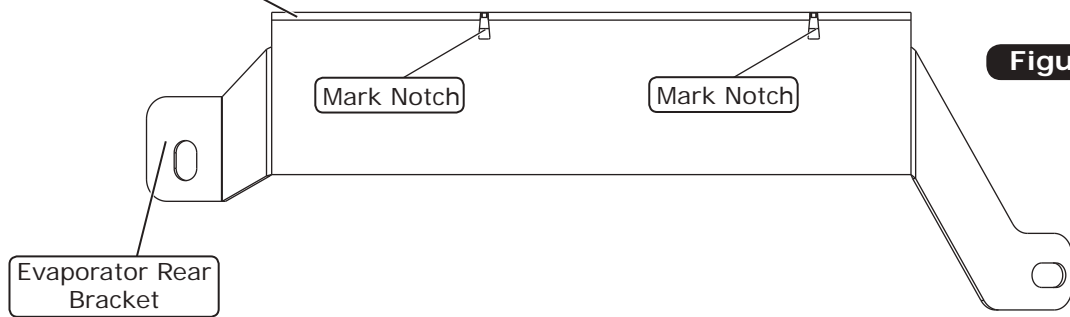

Figure 3
10. Push the louver bezel all the way back against the firewall (See Photo 44, below). While holding the bezel in place, use a pencil to draw a line onto the bottom of the glove box (behind the dash pad), using the edge of the evaporator rear bracket as a template (See Photos 44, 45, & 46, and Figure 3, below). Then draw a line into each of the (2) bracket notches to create (2) cross marks (See Photo 46 and Figure 3, below).
12. Locate the pencil crosses on the bottom of the glove box, and from each cross, measure 3/8" toward the firewall. Make (2) more marks, and drill (2) 5/16" holes at the new marks as shown in Photo 46, below.